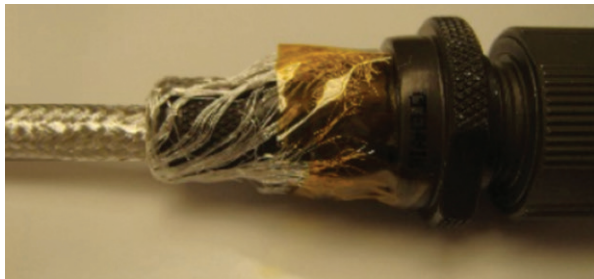

Figure 70: Returning braid to connector
29. Slide the braid toward the connector, and use a braid brush or pick to brush it over the backshell (Figure 70).